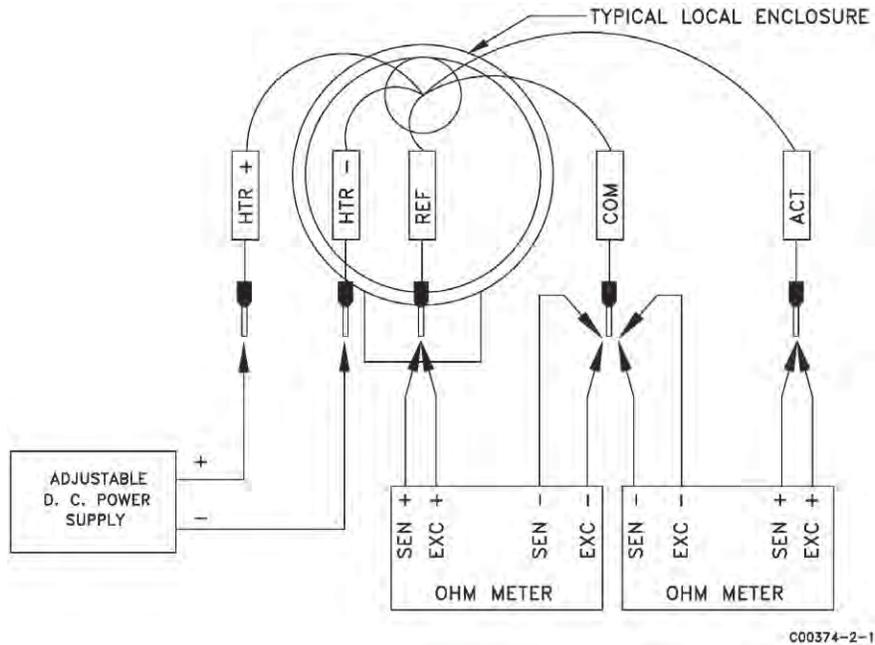

Figure 24 – Sensing Element Calibration Connections
4. Connect the DMMs and the power supply to the sensing element as shown in Figure 24.
7. Record the resistance values of the sensing elements and calculate the resistance differential (DR). If DR does not exceed the maximum DR of 280 ohms then proceed with the calibration. If the DR is above 280 ohms use the next lower heater wattage setting and let the instrument stabilize. Recheck the DR.